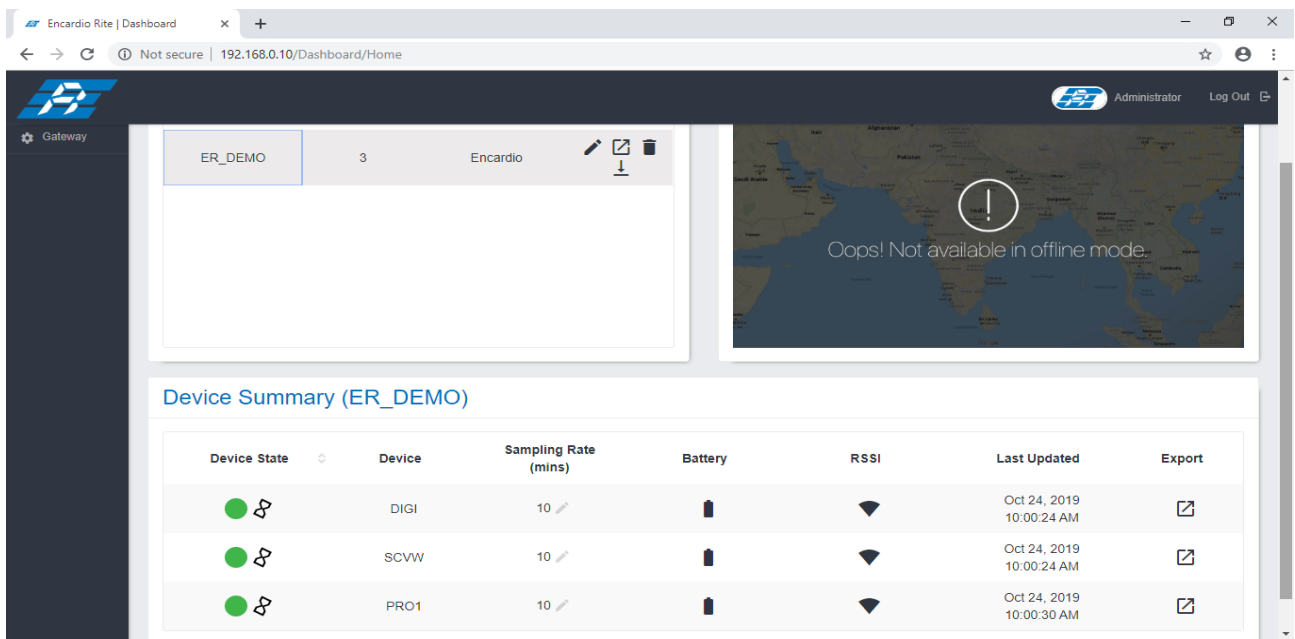

Figure 5-16
9. Now proceed to the Gateway software dashboard on the Laptop and click on the project created (ER-Demo in screenshot shown in figure 5-16). The commissioned devices can now be seen under "Device Summary" Section.